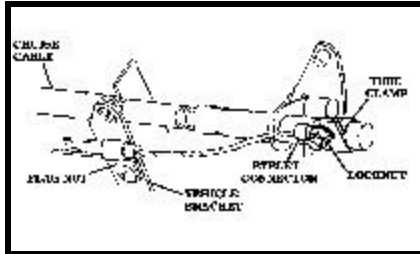

Figure 15
4. **Figure 15** is an example of a **Ford™** Throttle connection using the **TUBE CLAMP**.